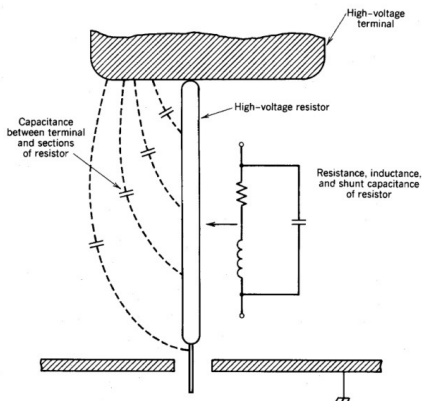

Figure 9.51 Effect of stray capacitance, shunt capacitance, and series inductance on resistive voltage divider.
- Parasitic effects (illustrated in Fig 9.51) can introduce waveform distortion at higher frequencies as illustrated in Fig 9.52